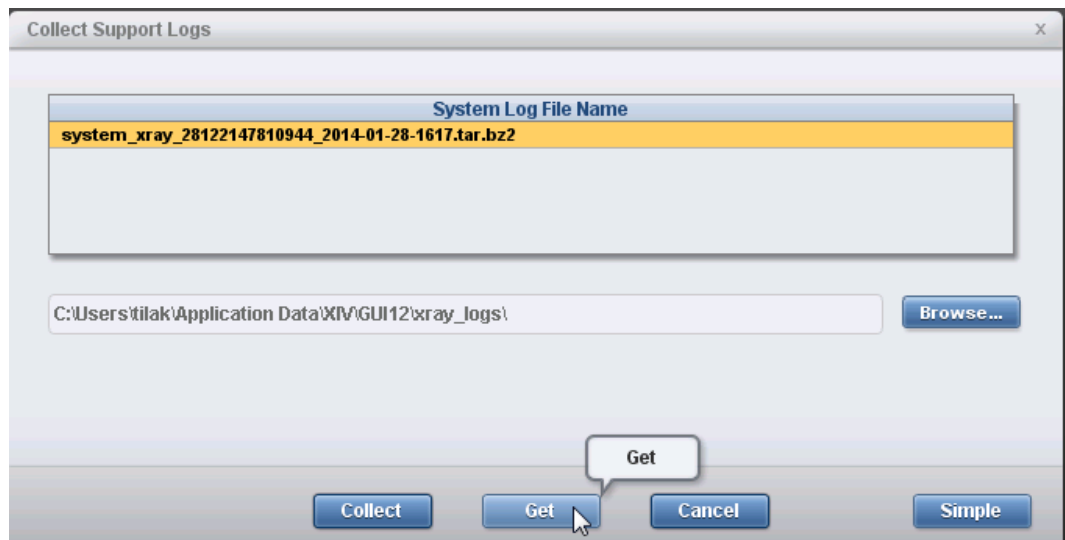

Figure 15-13 Getting the support logs
When the collecting process is complete, it shows up under System Log File Name panel, as shown in Figure 15-13.
4. Click **Advanced** $\emptyset$ **Select the log** $\emptyset$ **Get** to save the file on your system, as shown in Figure 15-13.